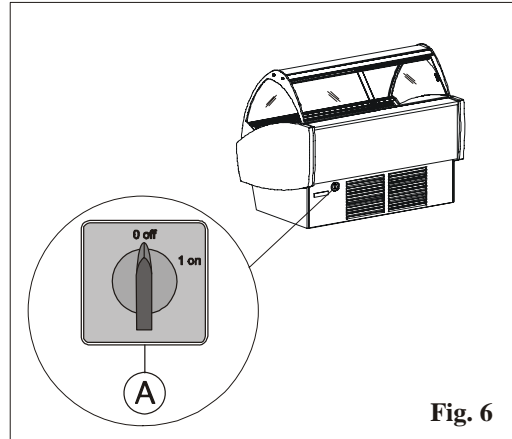

Fig. 6
- 2) Activate the display cabinet master switch, which is found on the rear protection panel. To introduce the electric power supply to the display cabinet, place the master switch at position "1" (fig. 6 pos. A).
To stop the plant act on switch (A), which is found behind the rear protection panel. Position the master switch at “0” (fig. 6 pos. A) disconnecting the display cabinet power supply.
After turning off the power to the machine, you must then disconnect the main switch, which is located on the rear protection panel (see fig. 6).